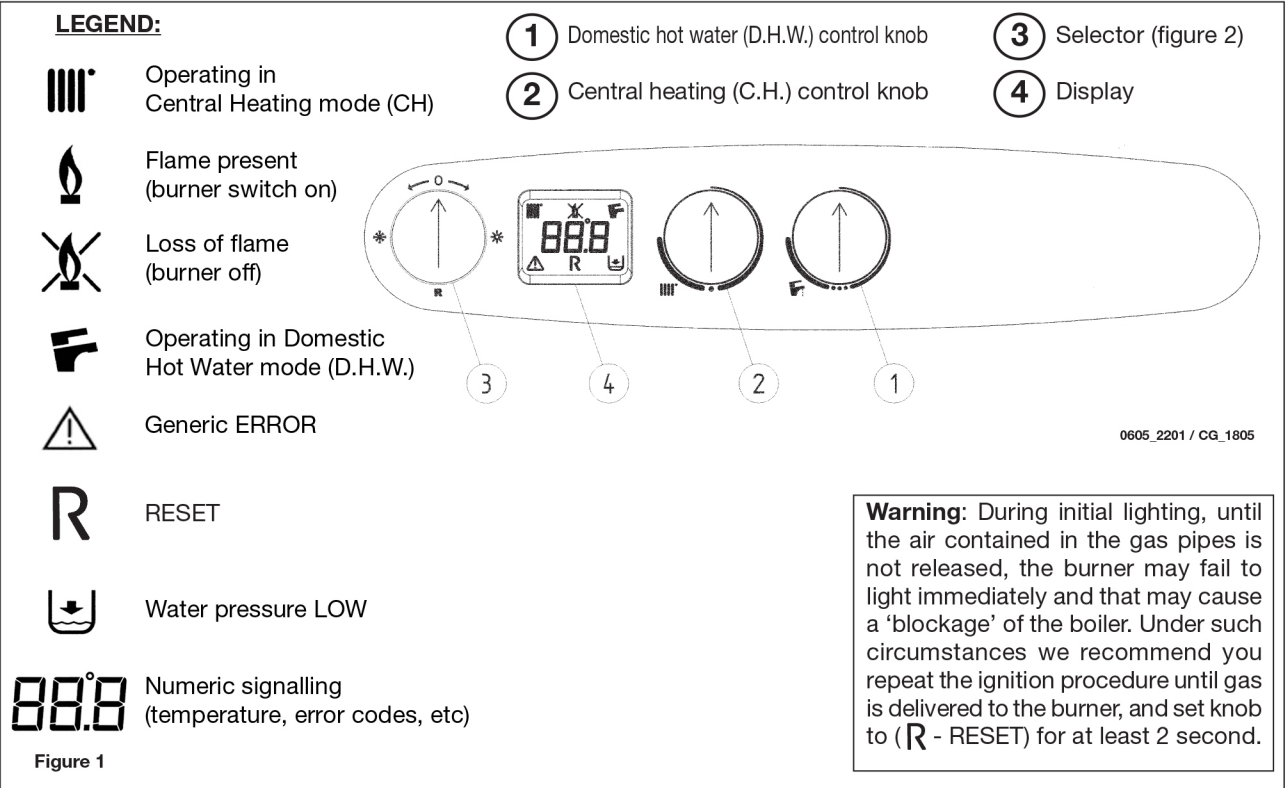
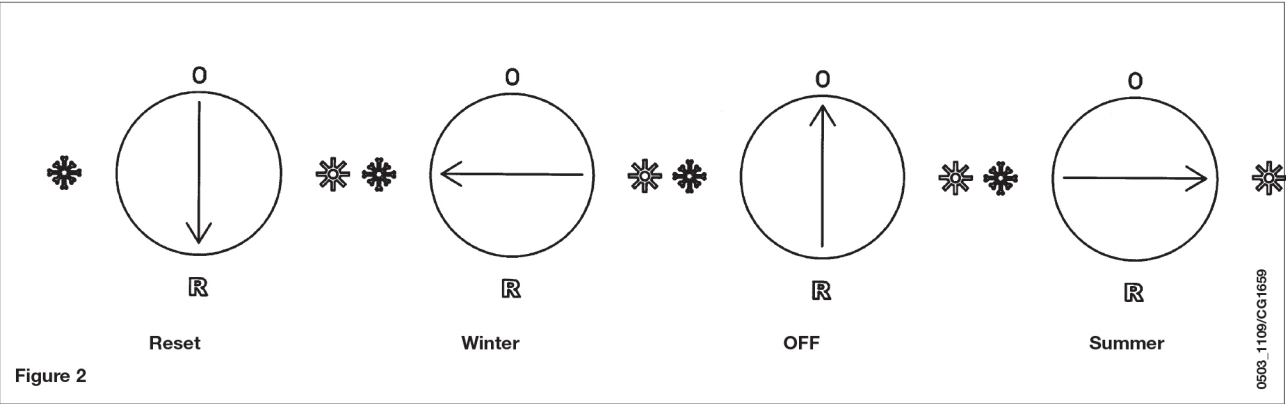

Figure 1
Figure 2
- 3) turn the selector switch (Figure 2) to set the boiler on summertime (☀) or wintertime (❄) operation;
- 4) turn the central heating (2) and domestic hot water (1) adjusting controls in order to light the main burner.
During this operation, the Summer/Winter selector (Figure 2) must be in the OFF position (0).
The electric supply to the boiler must be removed in order to switch it off. With the selector in O position (off – figure 2), the gas boiler remain switched off, the display (4 – figure 1) reads out “OFF” but the main board is still supplied and the Frost protection function is activated.
To RESET the gas boiler, turn selector (Figure 2) to “R” for at least 2 seconds. If the fault persists, call an authorised service centre.
To carry out a new RESET attempt, turn the selector (figure 2) in OFF position for at least 2 seconds.